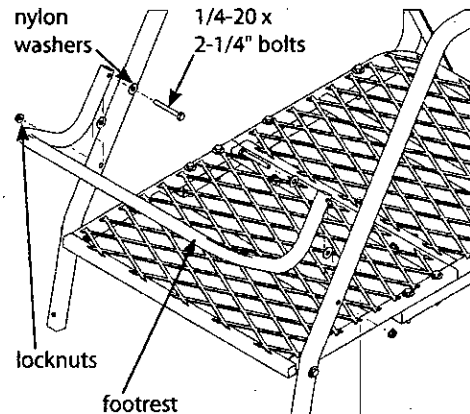

Figure 5
7. Attach footrest (410061) to ladder side rails using (2) provided 1/4-20 x 2-1/4" bolts, locknuts, steel washers and nylon washers. **SEE FIGURE 5.**